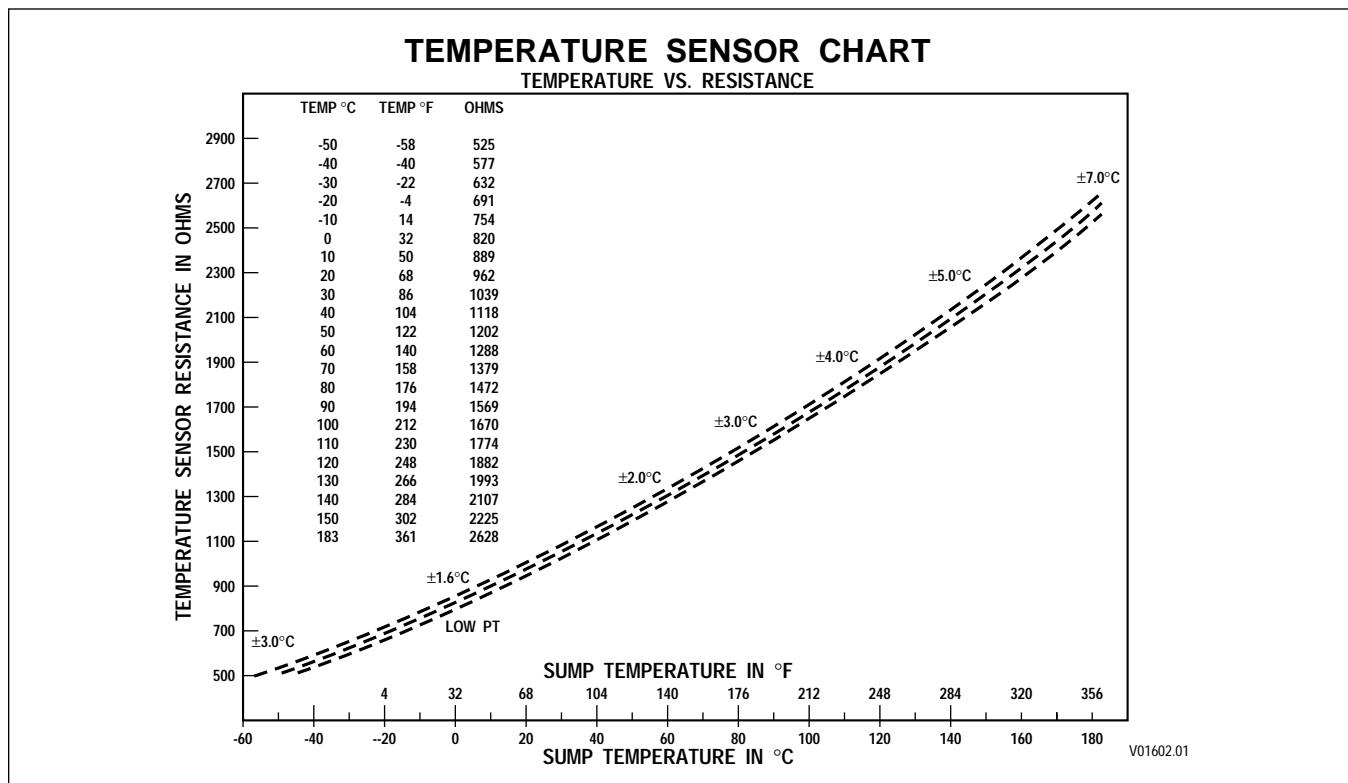

Figure 6–21. Temperature Sensor Chart (Sensors Prior to TID 2)
If the validity of the hot fluid diagnosis is in question, temperature can be checked by using a temperature gauge at the retarder-out port or by reading retarder temperature with the ATDT™ or Pro-Link® diagnostic tool. Another method of checking retarder temperature is to remove the “T” connector at the ECU and measure resistance (Ohms) between terminals T28 and T25. Compare the resistance value to the value in Figure 6–21 to see if the result is within the expected operating range. For TID 2 thermistors, see Appendix Q for resistance versus temperature table.
CODE 62 XX — RETARDER TEMPERATURE SENSOR (Figure 6–22)
1. Check the retarder temperature or engine coolant temperature with a DDR. If a DDR is not available, use the shift selector display to determine if the code is active (cycle the ignition on and off at least once since the code was logged to clear the code's active indicator). If a condition that is unreasonable for the current conditions exists, go to Step (3).
2. If Step (1) reveals that the extreme temperature indication is no longer present, the temperature limit could have been reached due to operational or ambient temperature extremes. Proceed cautiously as it is unlikely there is a sensor hardware fault.
3. Remove the connector at the ECU. Measure resistance between harness terminals T25 and T28 or between harness terminals V9 and V24. Compare resistance value to chart (Figure 6–21) to see if reading is within expected operating range.
CODE 64 XX — RETARDER MODULATION REQUEST DEVICE FAULT (*Figure 6–23*)